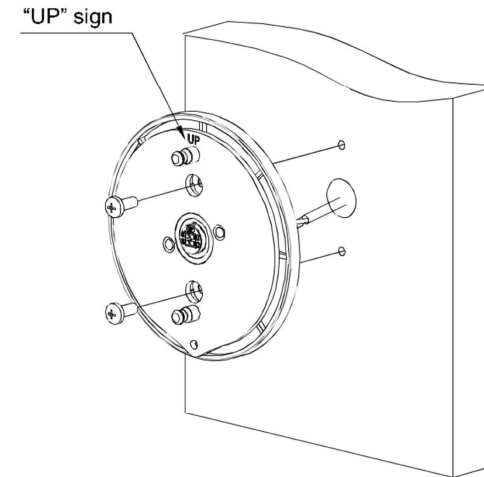

Fig. 6
4. Use two M4 screws to mount the Entrypad base, with "UP" sign faced up, (Fig. 6)